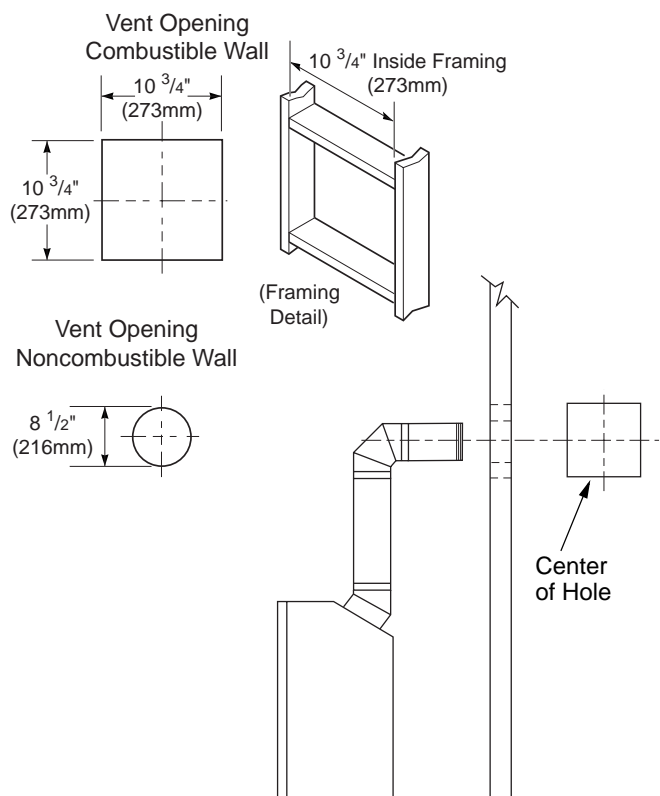

Figure 9 - Vent Opening Requirements
5. Carefully determine the location where the vent pipe assembly will penetrate the outside wall. The center of the hole should line up with the center-line of the horizontal vent pipe. Mark the wall for a 10 3/4" x 10 3/4" square hole. Cut and frame the square hole in the exterior wall where the vent will be terminated. If the wall being penetrated is constructed of noncombustible material, such as masonry block or concrete, a 8 1/2" hole with zero clearance is acceptable (see Figure 9).
1. Cut a 10 3/4" square hole in the ceiling using the locating hole as a center point. The opening should be framed to 10 3/4"x10 3/4" (273 mm x 273 mm) inside dimensions, as shown in Figure 9 on page 8 using framing lumber the same size as the ceiling joists. If the area above the ceiling is an insulated ceiling or a room, nail firestop from the top side. This prevents loose insulation from falling into the required clearance space. Otherwise, install firestop below the framed hole. The firestop should be installed with no less than three nails per side (see Figure 20).
3. Cut a hole in the roof using the locating hole as a center point. (Cover any exposed open vent pipes before cutting hole in roof.) The 10 3/4"x10 3/4" hole must be measured on the horizontal; actual length may be larger depending on the pitch of the roof. There must be a 1" clearance from the vent pipe to combustible materials. Frame the opening as shown in Figure 9, page 8.